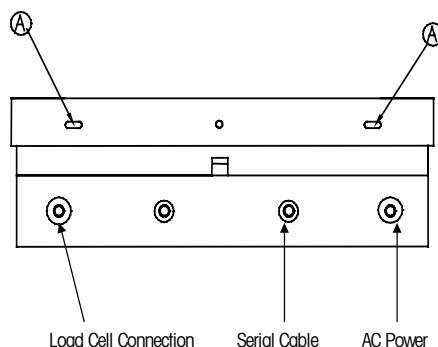

Figure 2-1
1. Separate the front panel from the enclosure by inserting the tip of a flat-blade screwdriver into each of the two slots on the bottom of the front panel assembly. Figure 2-1 shows the location of the slots (A).